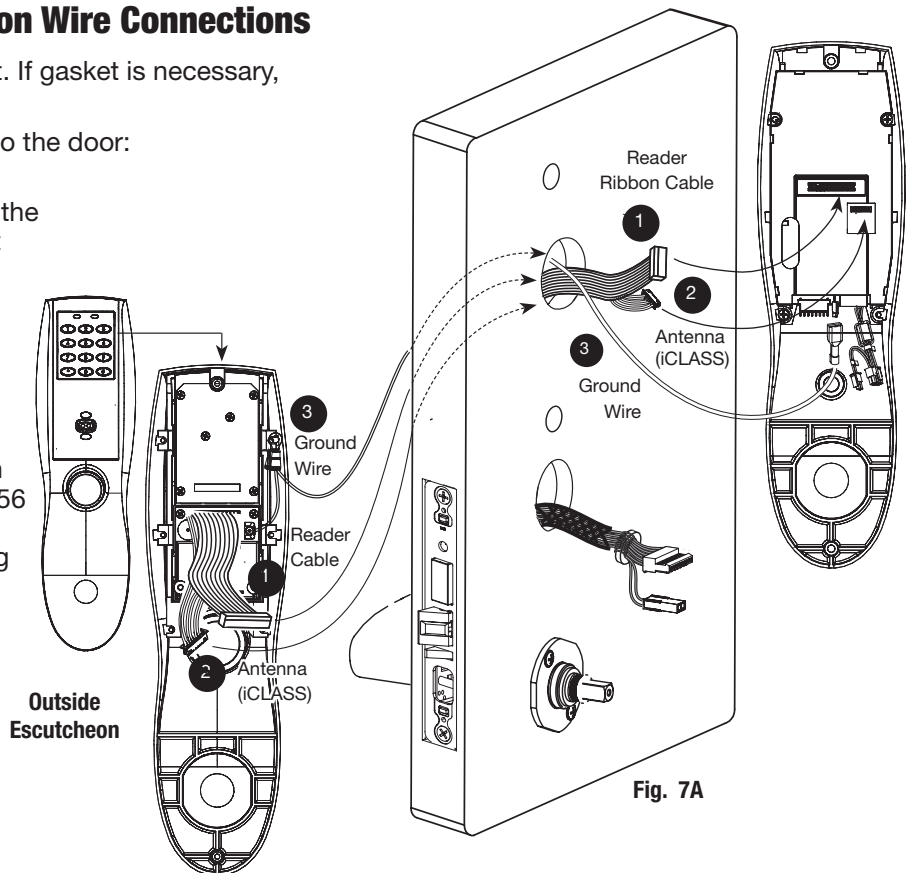

Fig. 7A
1. Attach the reader assembly ribbon cable into the back of the controller assembly (side that faces towards the door when mounted (Fig. 7A).